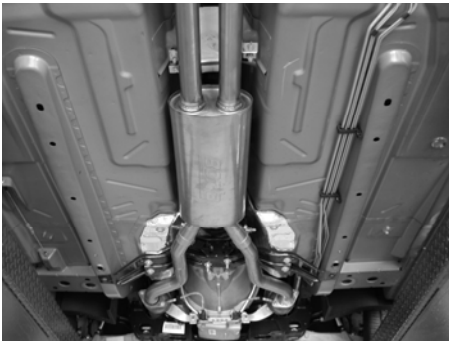

Figure 3
1. Place the left and right front pipe assemblies into position as shown in figure 3, securing the flanges using the original gaskets and hardware.
2. Place the front muffler assembly into position as also shown in figure 3. Using a muffler stand or an additional person to hold it in place.